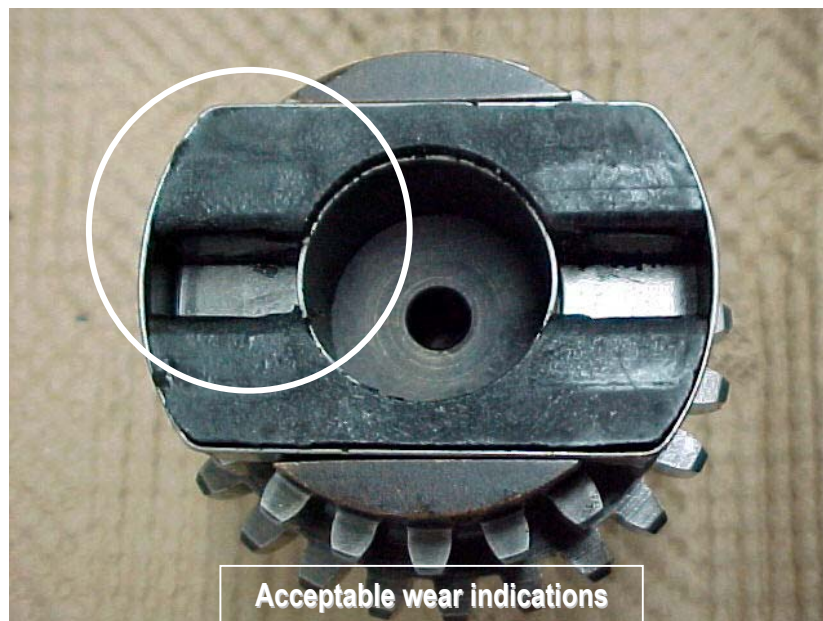

FIGURE 1. MAGNETO DRIVE RUBBER BUSHINGS
7. Inspect the left and right magneto drive rubber bushings for damage. Refer to Figure 1 on page 3 for typical wear signatures.